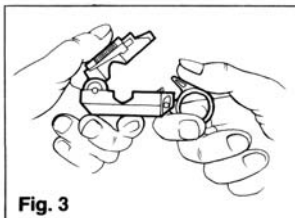

Fig. 3
- B. Open tool** by rotating locking latch downward. (fig. 3).